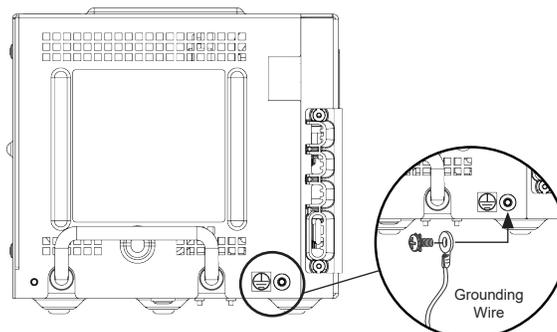

Fig. 11, Power Supply Ground
7. Using a user-supplied ground wire, connect the rack to the power supply ground by using the #10-32 ground stud  in Fig. 8. Connect the other end of the ground wire to the power supply using the ground screw provided (Fig. 11). Refer to applicable codes to determine additional grounding requirements.